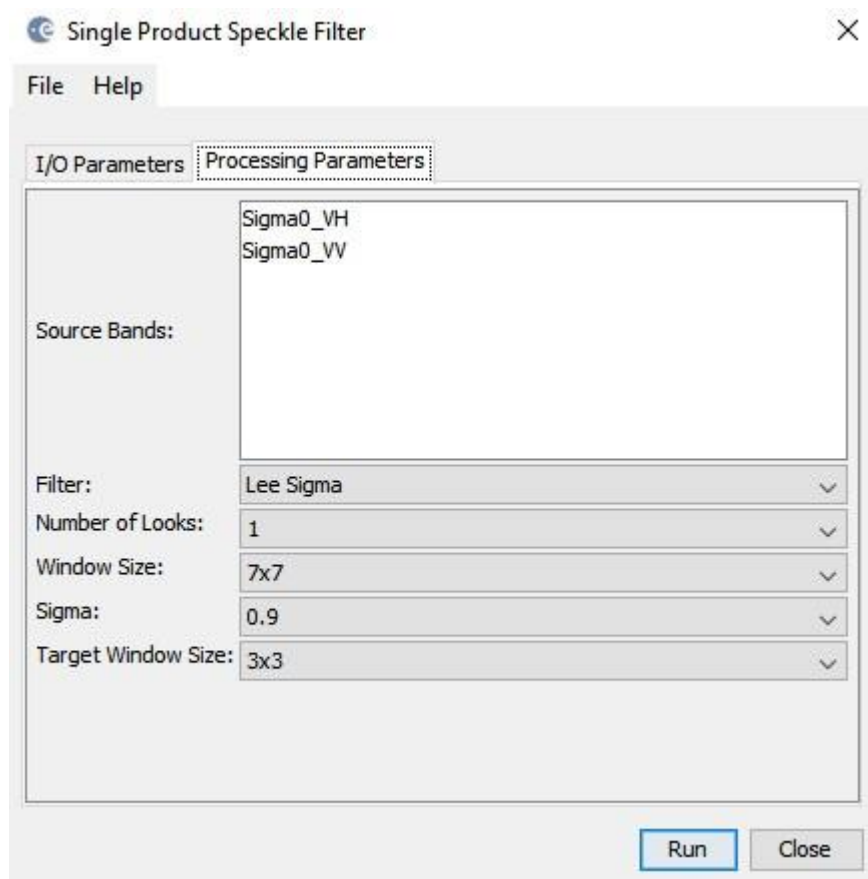

Figure 8. Speckle Filtering window.
i) In the **Speckle Filter** window (figure 8) **I/O Parameters** tab, specify the output folder and the target product name. The products will automatically be appended with the suffix “\_Spk” if you choose the default name.